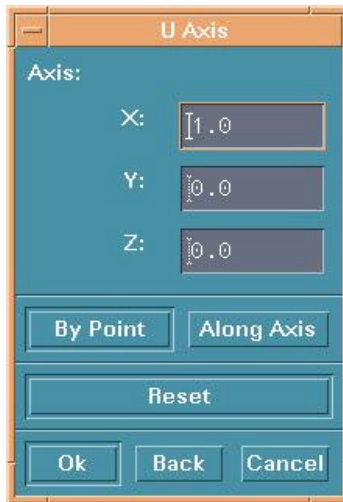

Figure 10.13.3 U Axis Definition
- Select BY POINT or ALONG AXIS from the U/V/W AXIS dialog (Figure 10.13.3) to define the axis. If BY POINT is selected, select a point in the display window to define the vector for the desired axis. If ALONG AXIS is selected, a dialog is displayed. The choices are ALONG X, ALONG Y, ALONG Z, ALONG U, ALONG V, ALONG W in the next dialog window select one and then DONE.